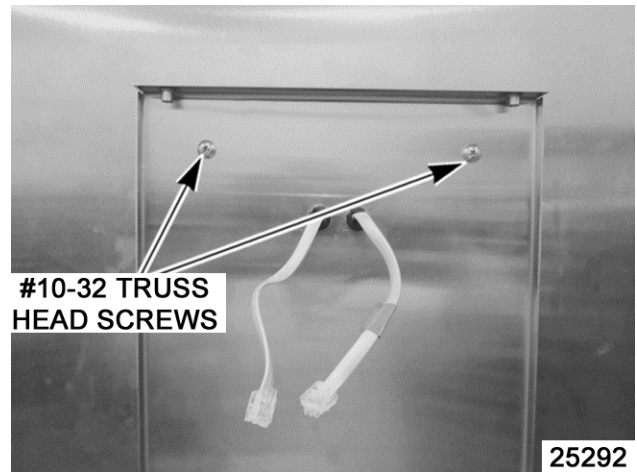

Fig. 76
8. Attach mounting plate to door face using four 10-32 x 1/2" truss head screws (Fig. 76).